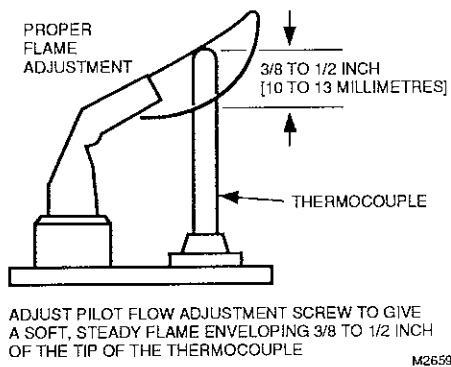

Fig. 2—Proper positioning of a thermocouple within the pilot flame.
One end of the copel rod is joined to the outer shell; the other end is connected to a copper wire that carries the current generated by the thermocouple to the power unit connector contact. The copel end connected to the outer shell is called the *hot junction*. The copel end connected to the copper wire is called the *cold junction*. When the tip of the thermocouple is properly positioned in the pilot flame, as shown in Fig. 2, the temperature difference between the hot junction and the cold junction is up to 650° F. This temperature difference within the copel element generates electrical energy (in the form of direct current), which flows through the copper lead to the power unit connector contact, keeping the gas control power unit energized.
3. Regulating the hot junction operating temperature. This is the most important factor in extending thermocouple life, and primarily hinges on properly mounting the thermocouple in the pilot flame. Only the top 3/8 to 1/2 in. of the thermocouple should be mounted in the pilot flame, as shown in Fig. 2, and the pilot flame should be soft and steady. To produce the required millivoltage, thermocouples require a minimum temperature differential between the hot and cold junctions of 400° F. To achieve this differential it may be necessary to regulate the pilot burner pressure for an acceptable pilot flame, since the temperature of the pilot flame is a function of the gas input pressure to the pilot orifice. As a rule of thumb, the life of the copel element is reduced 50 percent for each 100 degree increase in hot junction temperature. A thermocouple with a hot junction temperature of 1400° F, for example, has only one half the life of a thermocouple with a hot junction temperature of 1300° F.